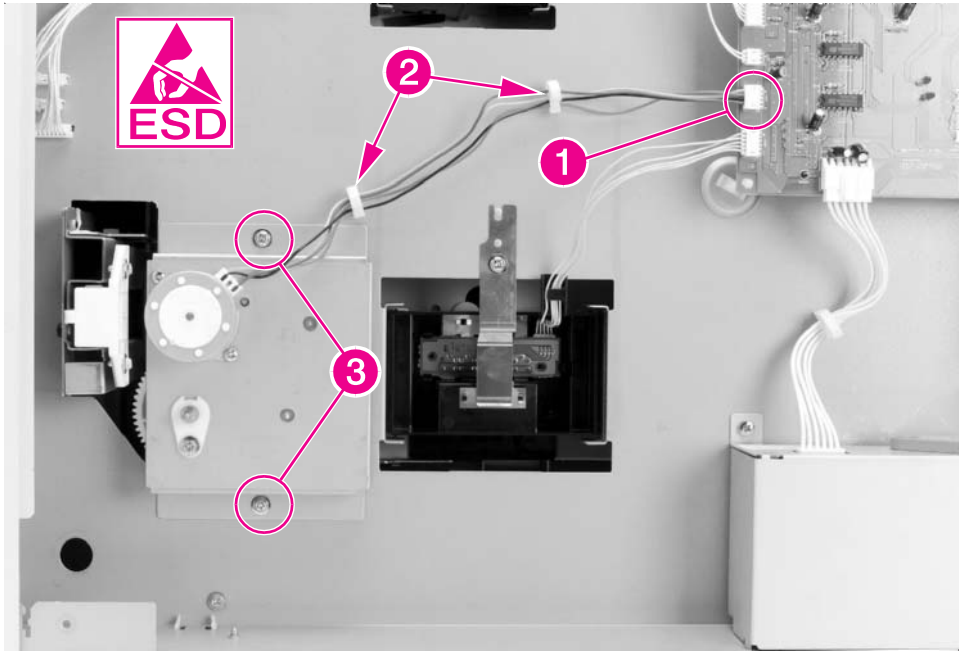

Figure 6-66 2000-sheet Input Tray Main Drive Assembly
- 2 Locate the cable that runs from the Main Drive Assembly on the 2000-sheet Input Tray to the unit's Controller PCA. Disconnect the cable from the J206 connector on the Controller PCA (figure 6-66, callout 1).
- 3 Release the cable from the 2 cable clips that hold the cable to the chassis (figure 6-66, callout 2).
- 4 Remove the 2 screws that connect the Main Drive Assembly to the chassis: 1 screw on top of the Main Drive Assembly and 1 screw on the bottom (figure 6-66, callout 3).
- 1** Reroute the cable through the cable clips (figure 6-66, callout 2) and reconnect the cable to the J206 connector on the Controller PCA (figure 6-66, callout 1).